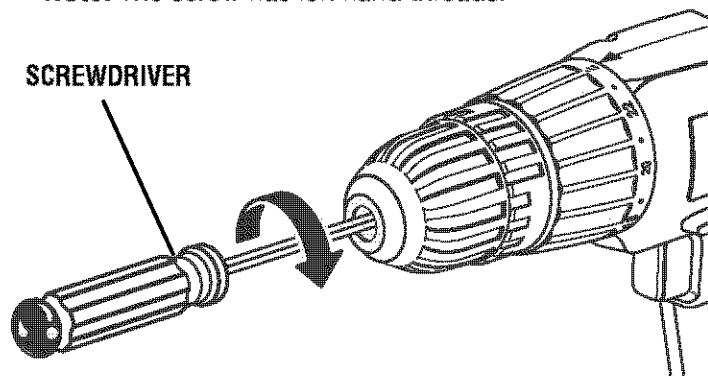

Fig. 12
- Tap the hex key sharply with a mallet in a clockwise direction. See Figure 12. This will loosen the screw in the chuck for easy removal.
- Open chuck jaws and remove hex key. Remove the chuck screw by turning it in a clockwise direction. See Figure 12.